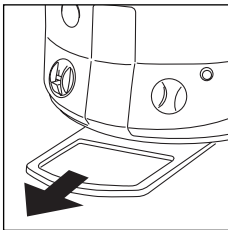

fig. 14
1. Pull the frame outwards (as in fig. 14).